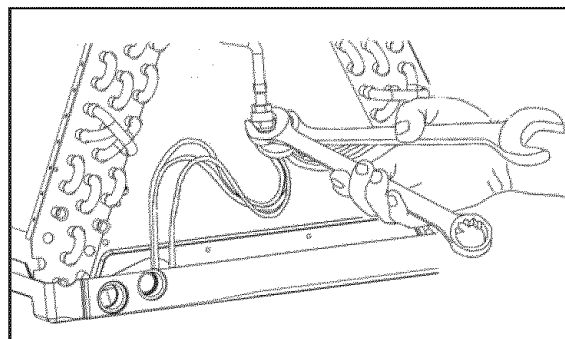

Figure 5. Wrenches on Distributor Body and Assembly Nut
2. Loosen the distributor body halves by applying two wrenches and squeezing them together as shown in Figure 5, to turn the assembly nut counterclockwise.